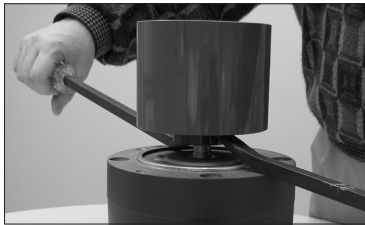

Figure 22
1. Remove the setscrews (item 13B) from the side of the drive (NEMA motors) or the bolt, lock washer and flat washer (items 21, 22, 23) from the center of the drive (metric motors).
2. Remove the drive magnet from the motor shaft by gently prying up from the bottom of the drive. See figure 22.